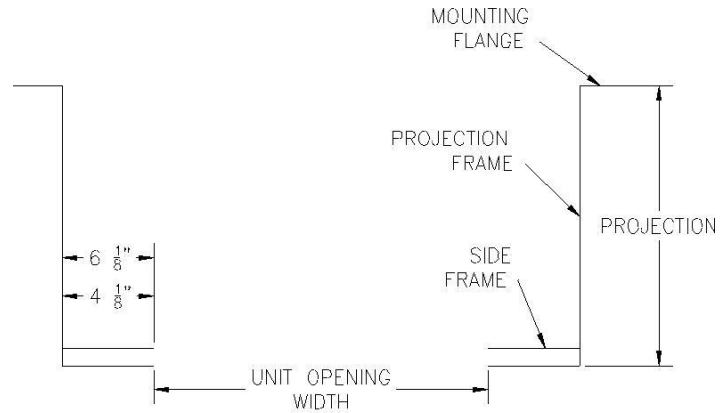

FIG. 1C
- a. **Measure the projection** of the upright.(Fig. 1c)
- **Check the Unit Opening Width** marked on the fabric roll. Add the two side frame dimensions to the Unit Opening Width. This is your distance between the Projection frames.(Fig 1c)